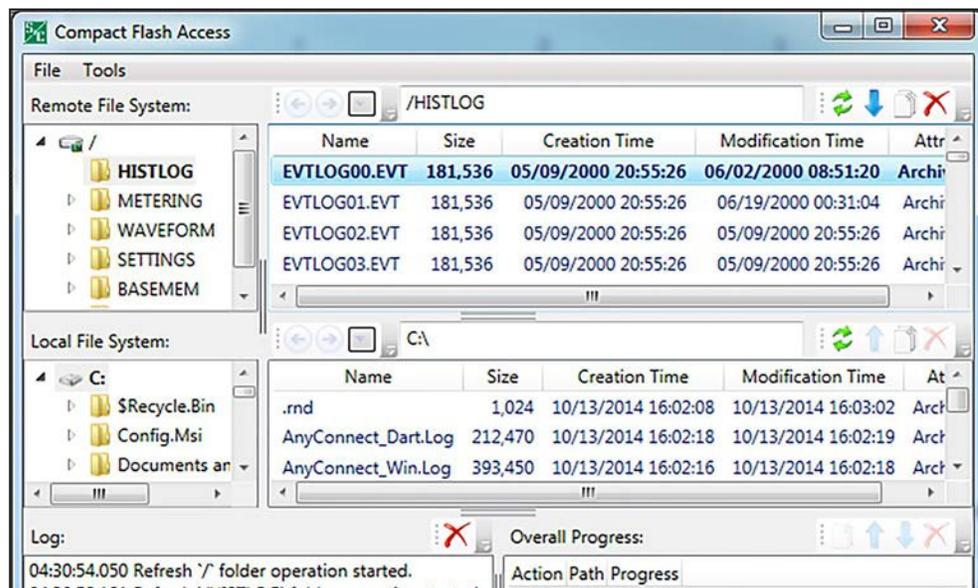

Figure 115. The Compact Flash Access screen.
- STEP 2.** Determine which devices participated in the field event for which the Instant Replay is being created. See Figure 115.